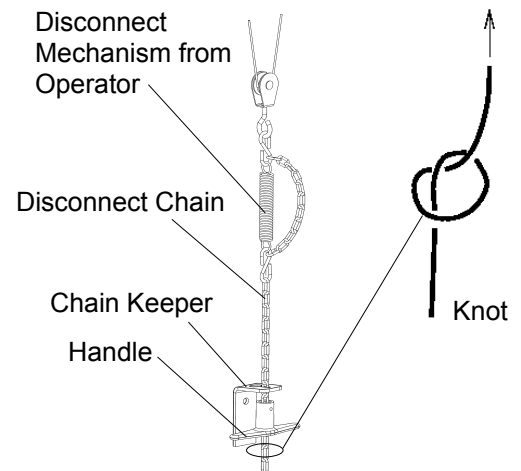

Figure 10 - Disconnect Chain
1. Link the disconnect chain to the hook located at the extremity of the operator's disconnect mechanism, see Figure 10.